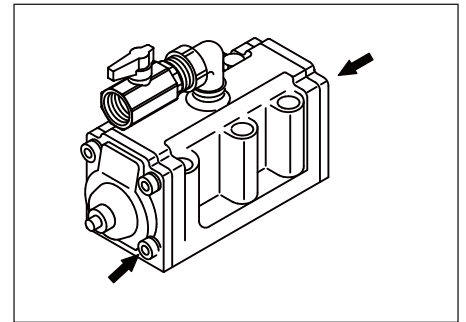

Figure 28
- Remove the 8 cap A and cap B retainer bolts, and remove cap A and cap B (See Figure 28).